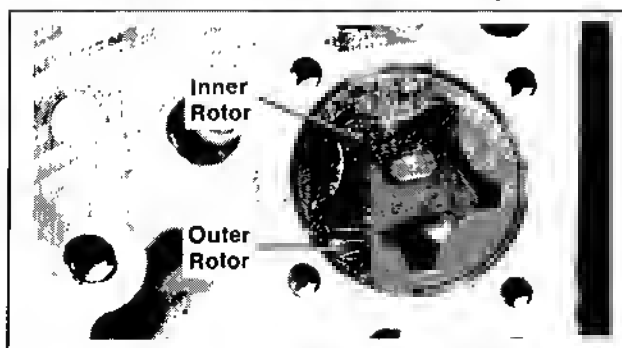

Figure 11-4. Installing Oil Pump Rotors.
5. Lubricate the oil pump cavity with engine oil. Install inner and outer rotors. Refer to Figure 11-4.